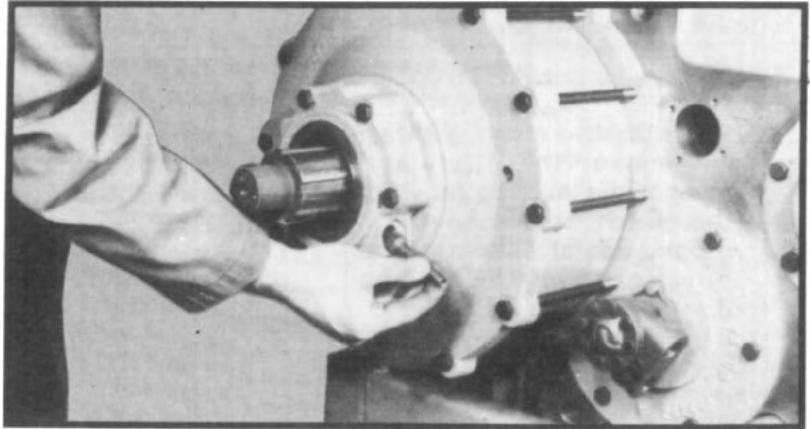

Fig. 137
- 2.29 Install speedometer drive gear into seal carrier to mesh correctly with drive gear. (See fig. 137.)